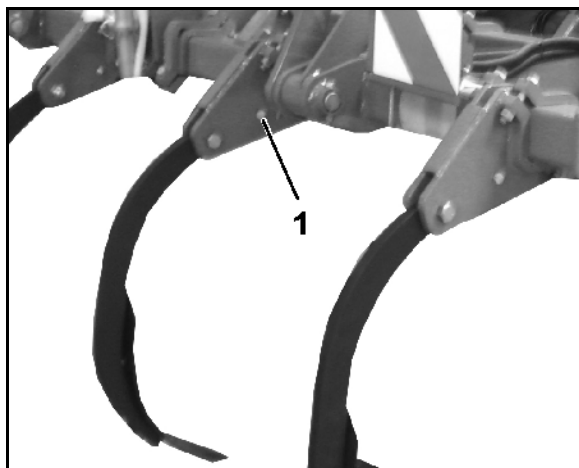

Fig. 27
- After the shearing off the shear bolt (Fig. 27/1) fit a new shear bolt (M12 x 90 8.8) in the event of overloading.